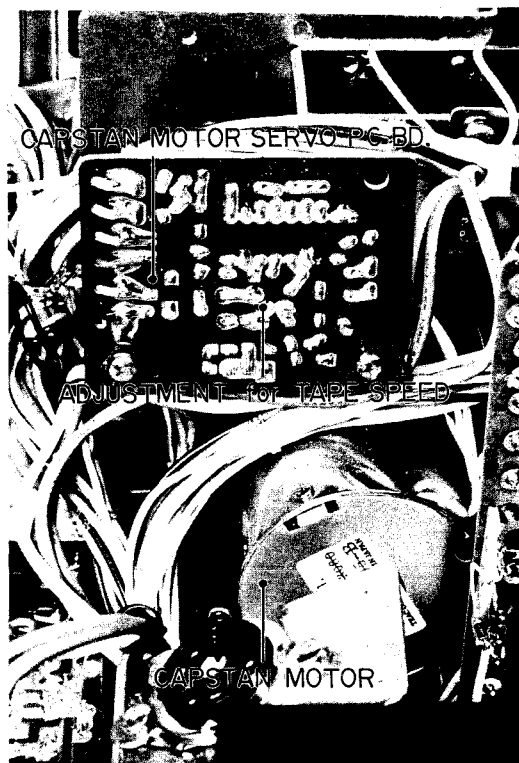

Fig. 5-8 Tape Speed Adjustment Location
4. Adjust the semi-fixed resistor as shown in Fig. 5-8 for reading of 3,000 Hz \pm 5 Hz on the frequency counter. (NOTE: This tape speed setting should be done after approx. 30 seconds of operating time of the deck.)